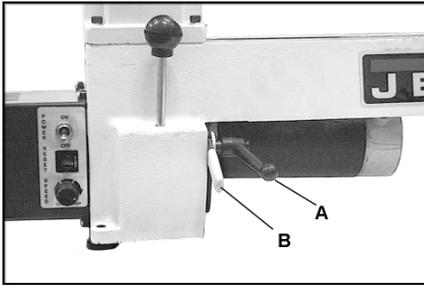

Fig 5
Take tension off the belt. Loosen the motor plate lock (A, Fig 5) and lift up motor plate handle (B).